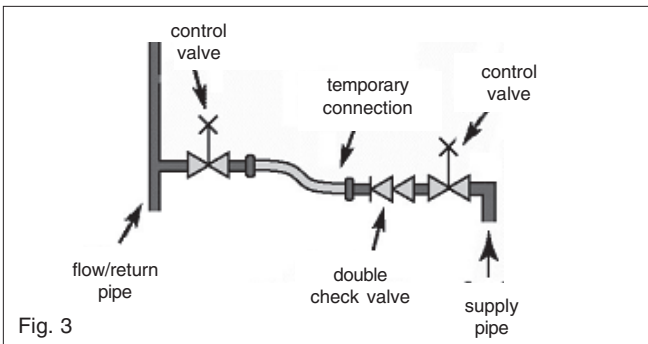

Fig. 3
3.1 HOW TO TOP-UP THE SYSTEM PRESSURE (fig. 3 & 4)
- Locate the filling valve connections (usually beneath the boiler, see fig. 3).